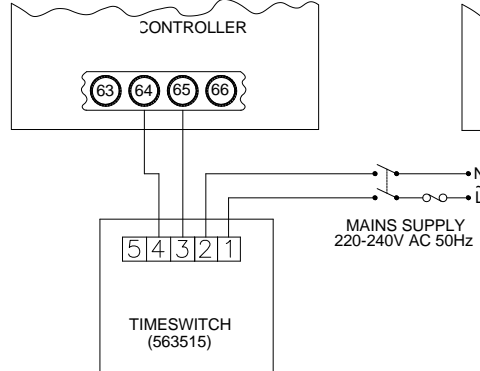

FIG 13: TIMESWITCH CONNECTION DIAGRAM
- Fig.13 - Timeswitch (240V supply);